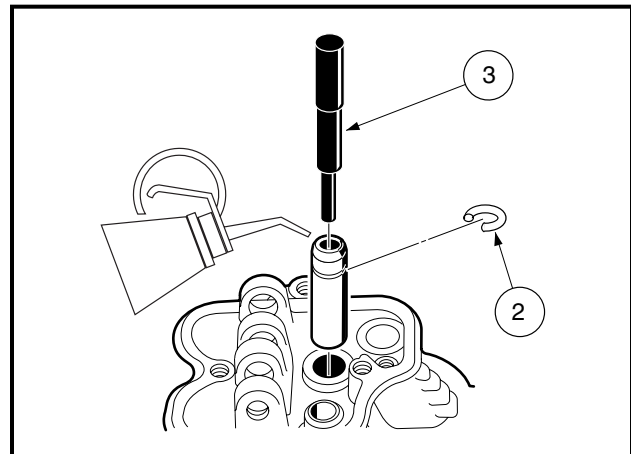
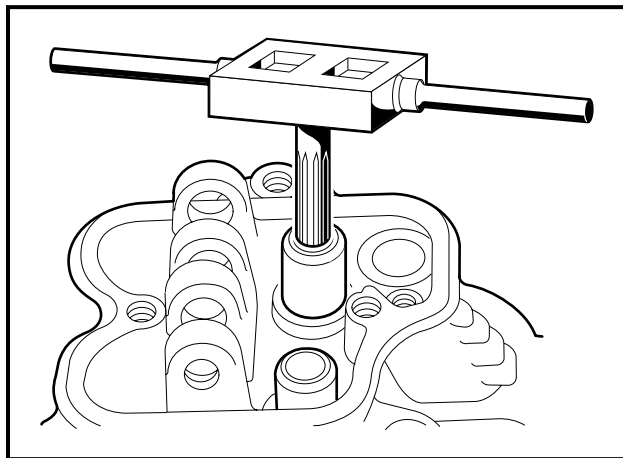

Figure 3-16 Valve Guide Installation
Figure 3-17 Ream Valve Guide
2. Install the snap ring (2) on the new valve guide (**Figure 3-16, Page 3-10**).
4. With the rocker arm side of the head facing up, drive the new valve guide into the head with the valve guide arbor (3) until the snap ring (2) just seats on the head.
5. Ream the guide with a stanisol or kerosene lubricant and a valve guide reamer (CCI P/N 101641201). The valve guide inside diameter should be 0.2756 - 0.2762 inch (7.000 - 7.015 mm) (**Figure 3-17, Page 3-11**).